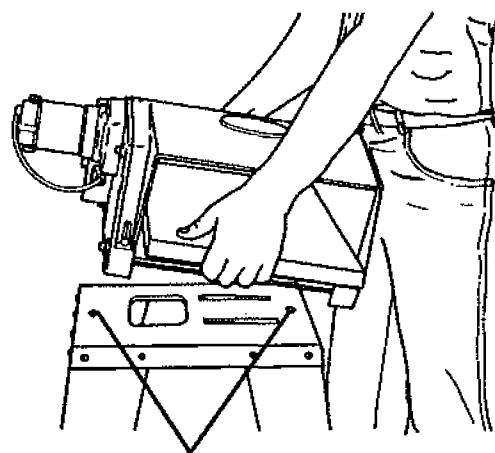

Fig. 24
31. Firmly grasp the planer and lift it into position on the stand. Carefully place the planer on the stand so the feed motor is on the same side of the top panel as the large opening, as shown in Fig. 24.
32. See Figs. 24 and 25. Note the hole in the middle of the top panel (on both ends). Make sure these holes are aligned with the two mounting holes located in the bottom of the planer.